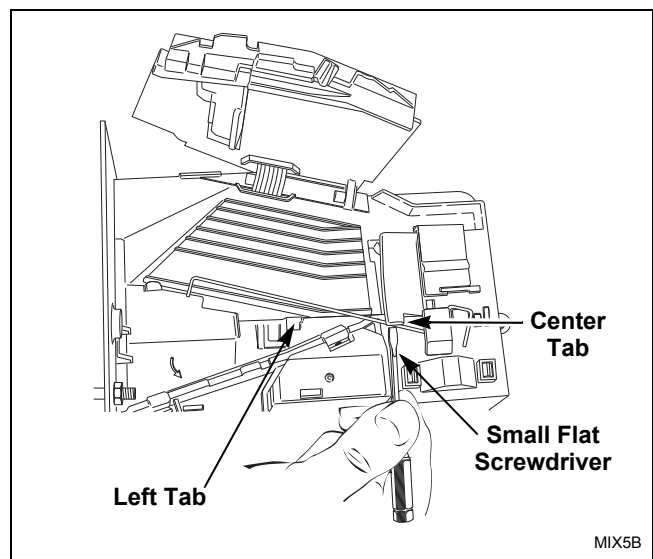

Figure 11
- (12) Use a small flathead screwdriver to push spring under center tab. Refer to *Figure 11*.